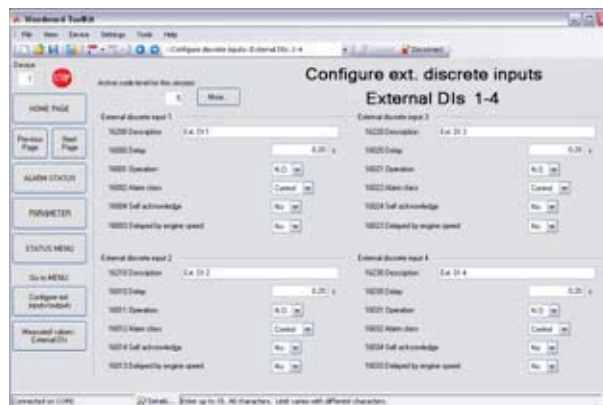

Fig. 194: Setup of external DIs
- ➔ Set up the external discrete inputs using the ToolKit screen shown in (Fig. 194).